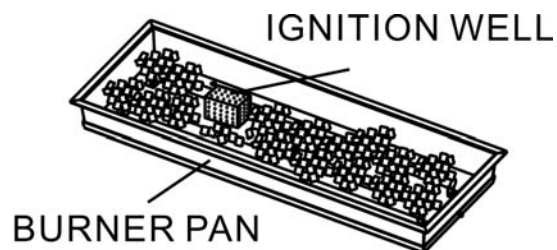

Figure 9
10. Pour the fire ice into the burner completely covering the burner. See Figure 9. Remove the cardboard cover from the ignition well.